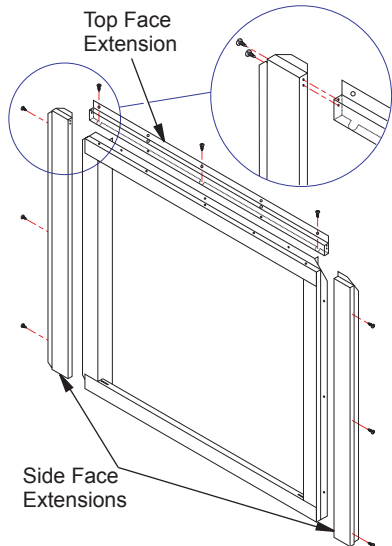

Figure 32 - Front Face Extension
1. Remove existing screws from front face assembly as shown in Figure 32.
2. Align holes on top face extension with holes on top side of front face assembly and secure with screws previously removed (see Figure 32).
3. Align holes on right face extension with holes on right side of front face assembly and secure with screws previously removed (see Figure 32). Do the same for left side.
4. Secure top face extension with left and right face extensions with two sheet metal screws (see Figure 32).